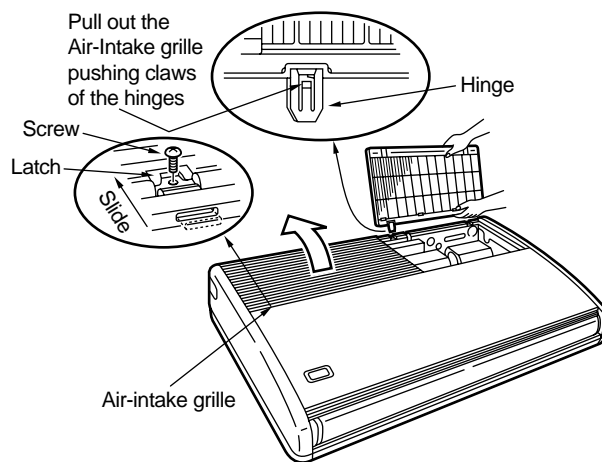
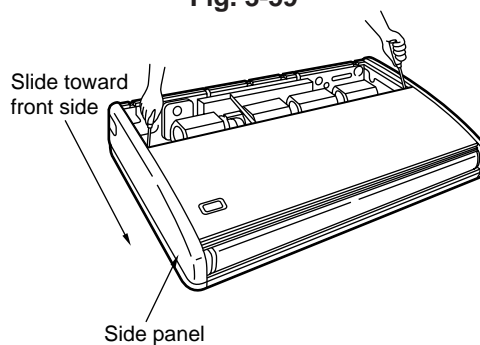

Fig. 3-59
Fig. 3-60
- (5) Before suspending the indoor unit, remove the 2 screws on the latch of the air-intake grilles, open the grilles, and remove them by pushing the claws of the hinges as shown in Fig. 3-59. Then remove both side panels sliding them along the unit toward the front after removing the two screws which fix them. (Fig. 3-60)